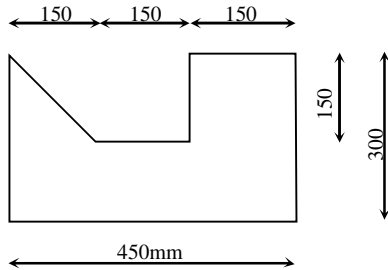

Fig. 2
2. a) Calculate the position of the Centre of gravity for the figure shown in figure 2. (5 marks)